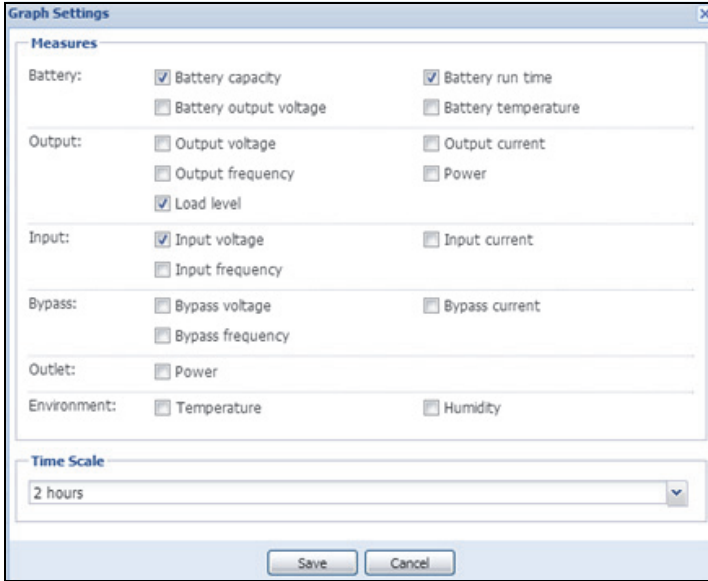

Figure 54. Graph Settings Dialog Box
- The  button allows you to select the data you want to display in the graph (see Figure 54).